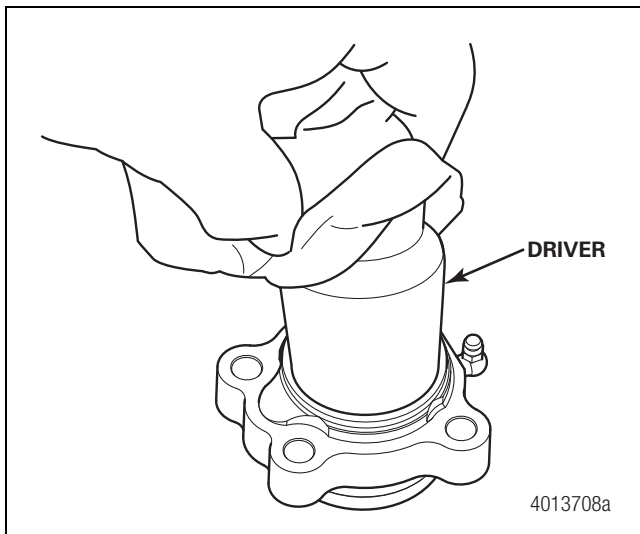
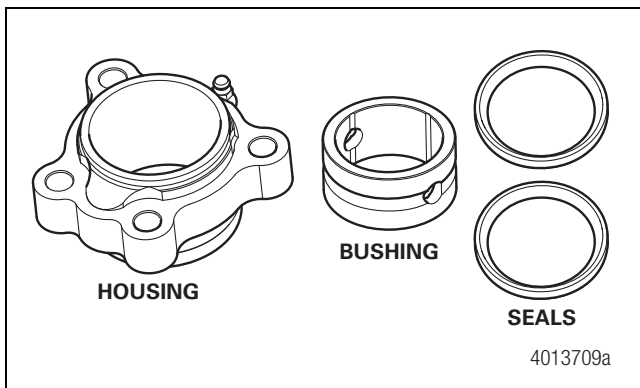

Figure 11.42
Figure 11.43
7. Use a suitable tool to drive the bushing and second seal out of housing. Figure 11.42 and Figure 11.43.